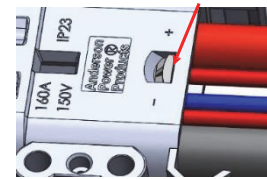

Figure 6
- c. Push from the back of the holder until the holder locking tab snaps into the rectangular opening (Figure 6)